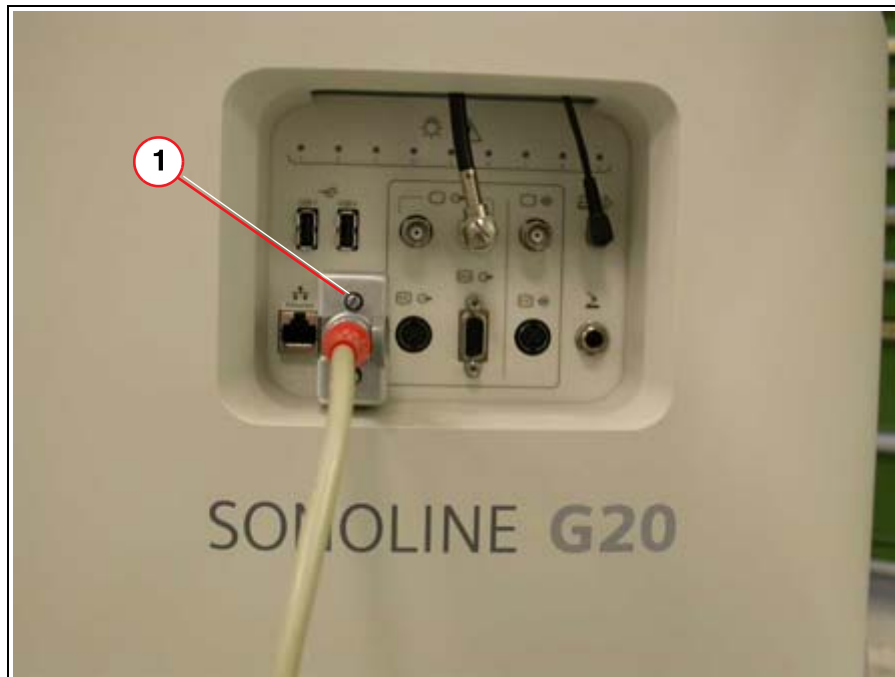

Fig. 59: SONOLINE G20
- Secure the connector adapter (1/Fig. 59 / p. 57) to the serial interface.